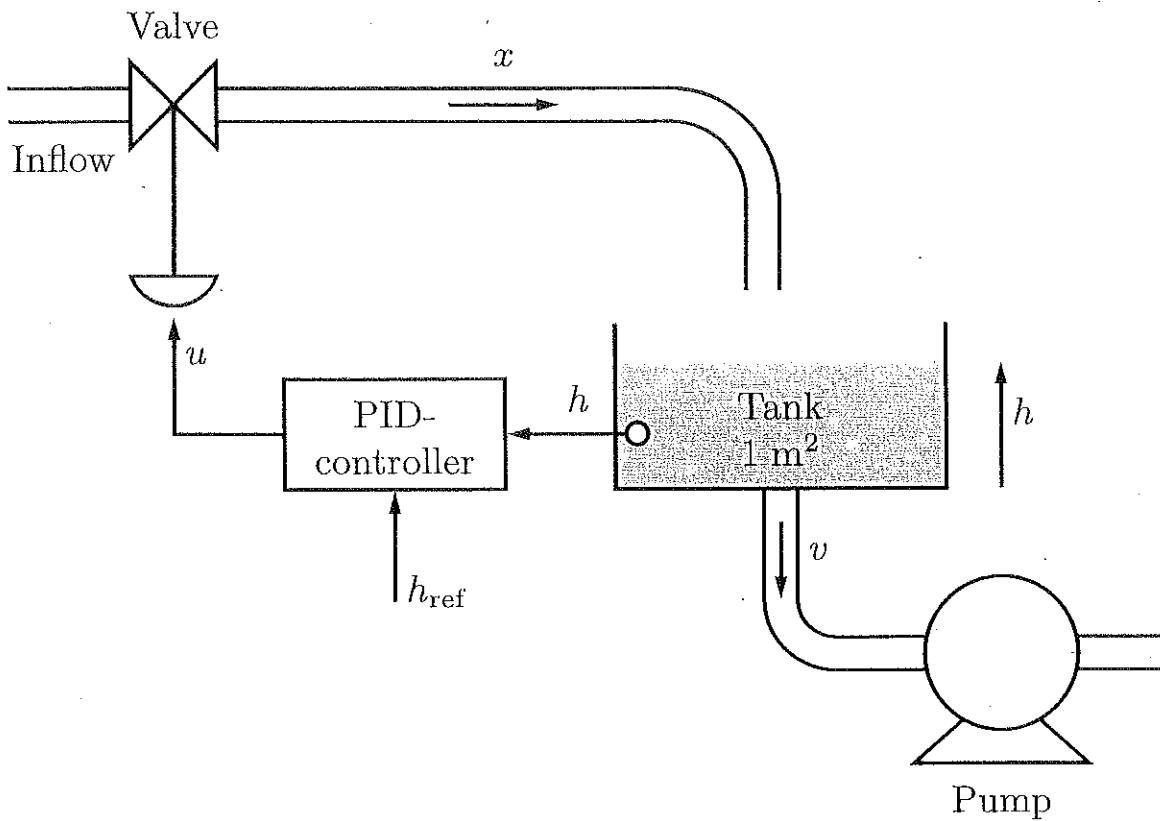

Figure 3.1a
3.1 A feedback system for level control is shown in Figure 3.1a where all variables denote variations from a working point. The flow to the tank is given by the valve position and the outflow from the tank by the flow  $v(t)$  via the pump. The transfer function from valve opening  $u$  to the flow  $x$  is denoted  $G_v(s)$ .